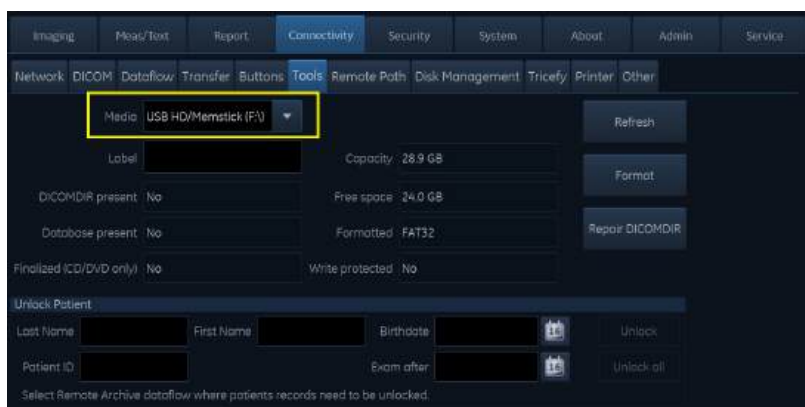

Figure 3-55. The Tools tab
4. Select the category **Connectivity** and select the tab **Tools** (Figure 3-55).